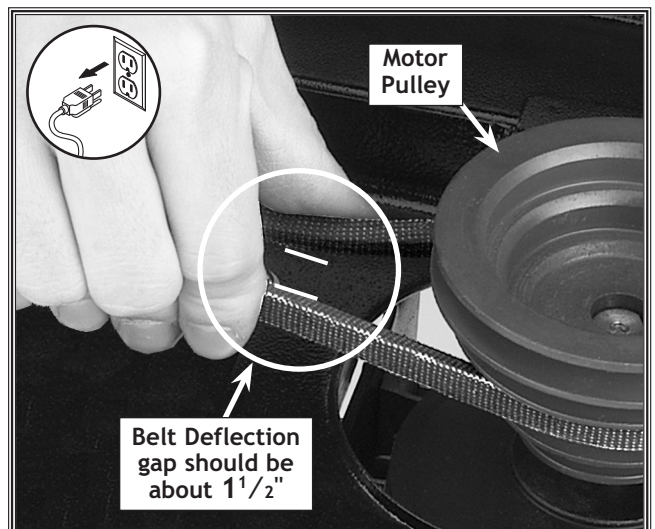
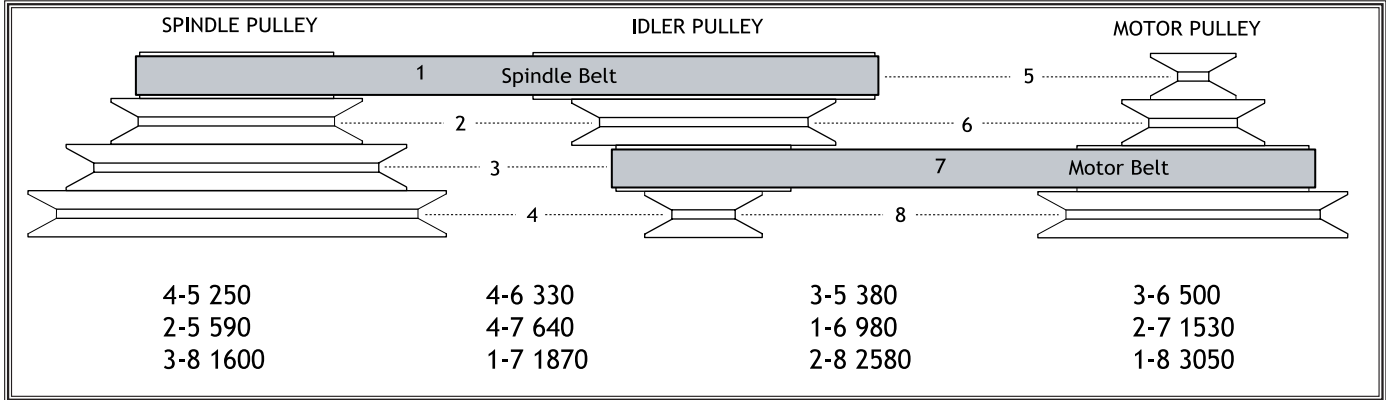

Figure 35. Measuring belt deflection.
Figure 36. Drill Press RPM Chart.
7. Tighten the lock screw, and make sure the belt deflection is $1\frac{1}{2}$ " between both inner sides when the belt is pinched together between the pulleys, as shown in Figure 35. Refer to "Belt Tension" in the ADJUSTMENTS section on Page 15 for details.
Use **Figure 35** to select the optimum motor-to-spindle pulley ratio for drilling, cutting, and sanding operations. The belt setting in the example in **Figure 36** shows the spindle belt in the #1 spindle pulley position and the motor belt in the #7 motor pulley location. This will produce a speed of 1,870 RPM. Refer to the **Drill, Cutter, and Saw RPM Chart** on **Page 21** for suggested tool RPMs.